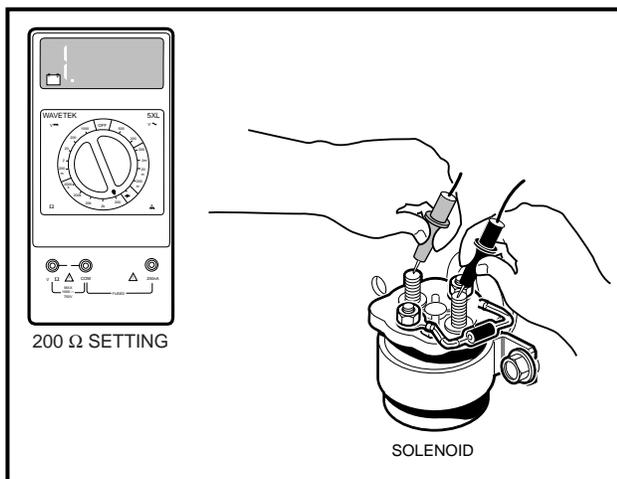

Figure 11-21 Test Solenoid Contacts
1. With batteries disconnected, remove the yellow wire and red wire from the large posts of the solenoid. Remove resistor assembly. Place the red (+) probe of the multimeter on one of the large posts of the solenoid and the black (-) probe of the meter on the other large post on the solenoid. Multimeter should indicate no continuity. If multimeter indicates continuity, replace solenoid (**Figure 11-21, Page 11-16**).